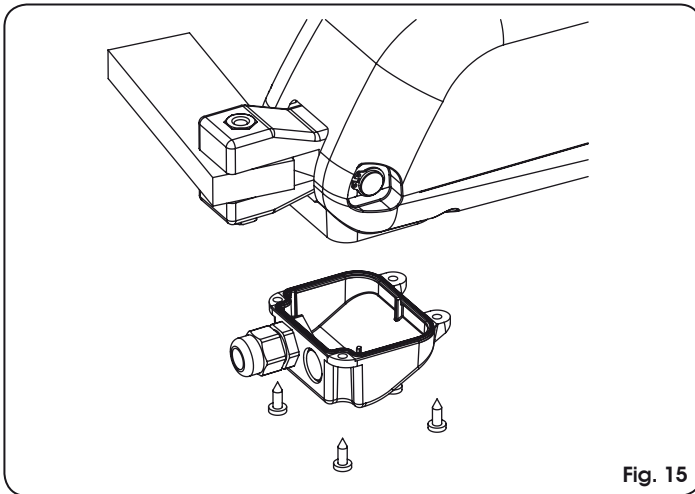

Fig. 15
4. Close the cover with the four supplied screws, Fig. 15.